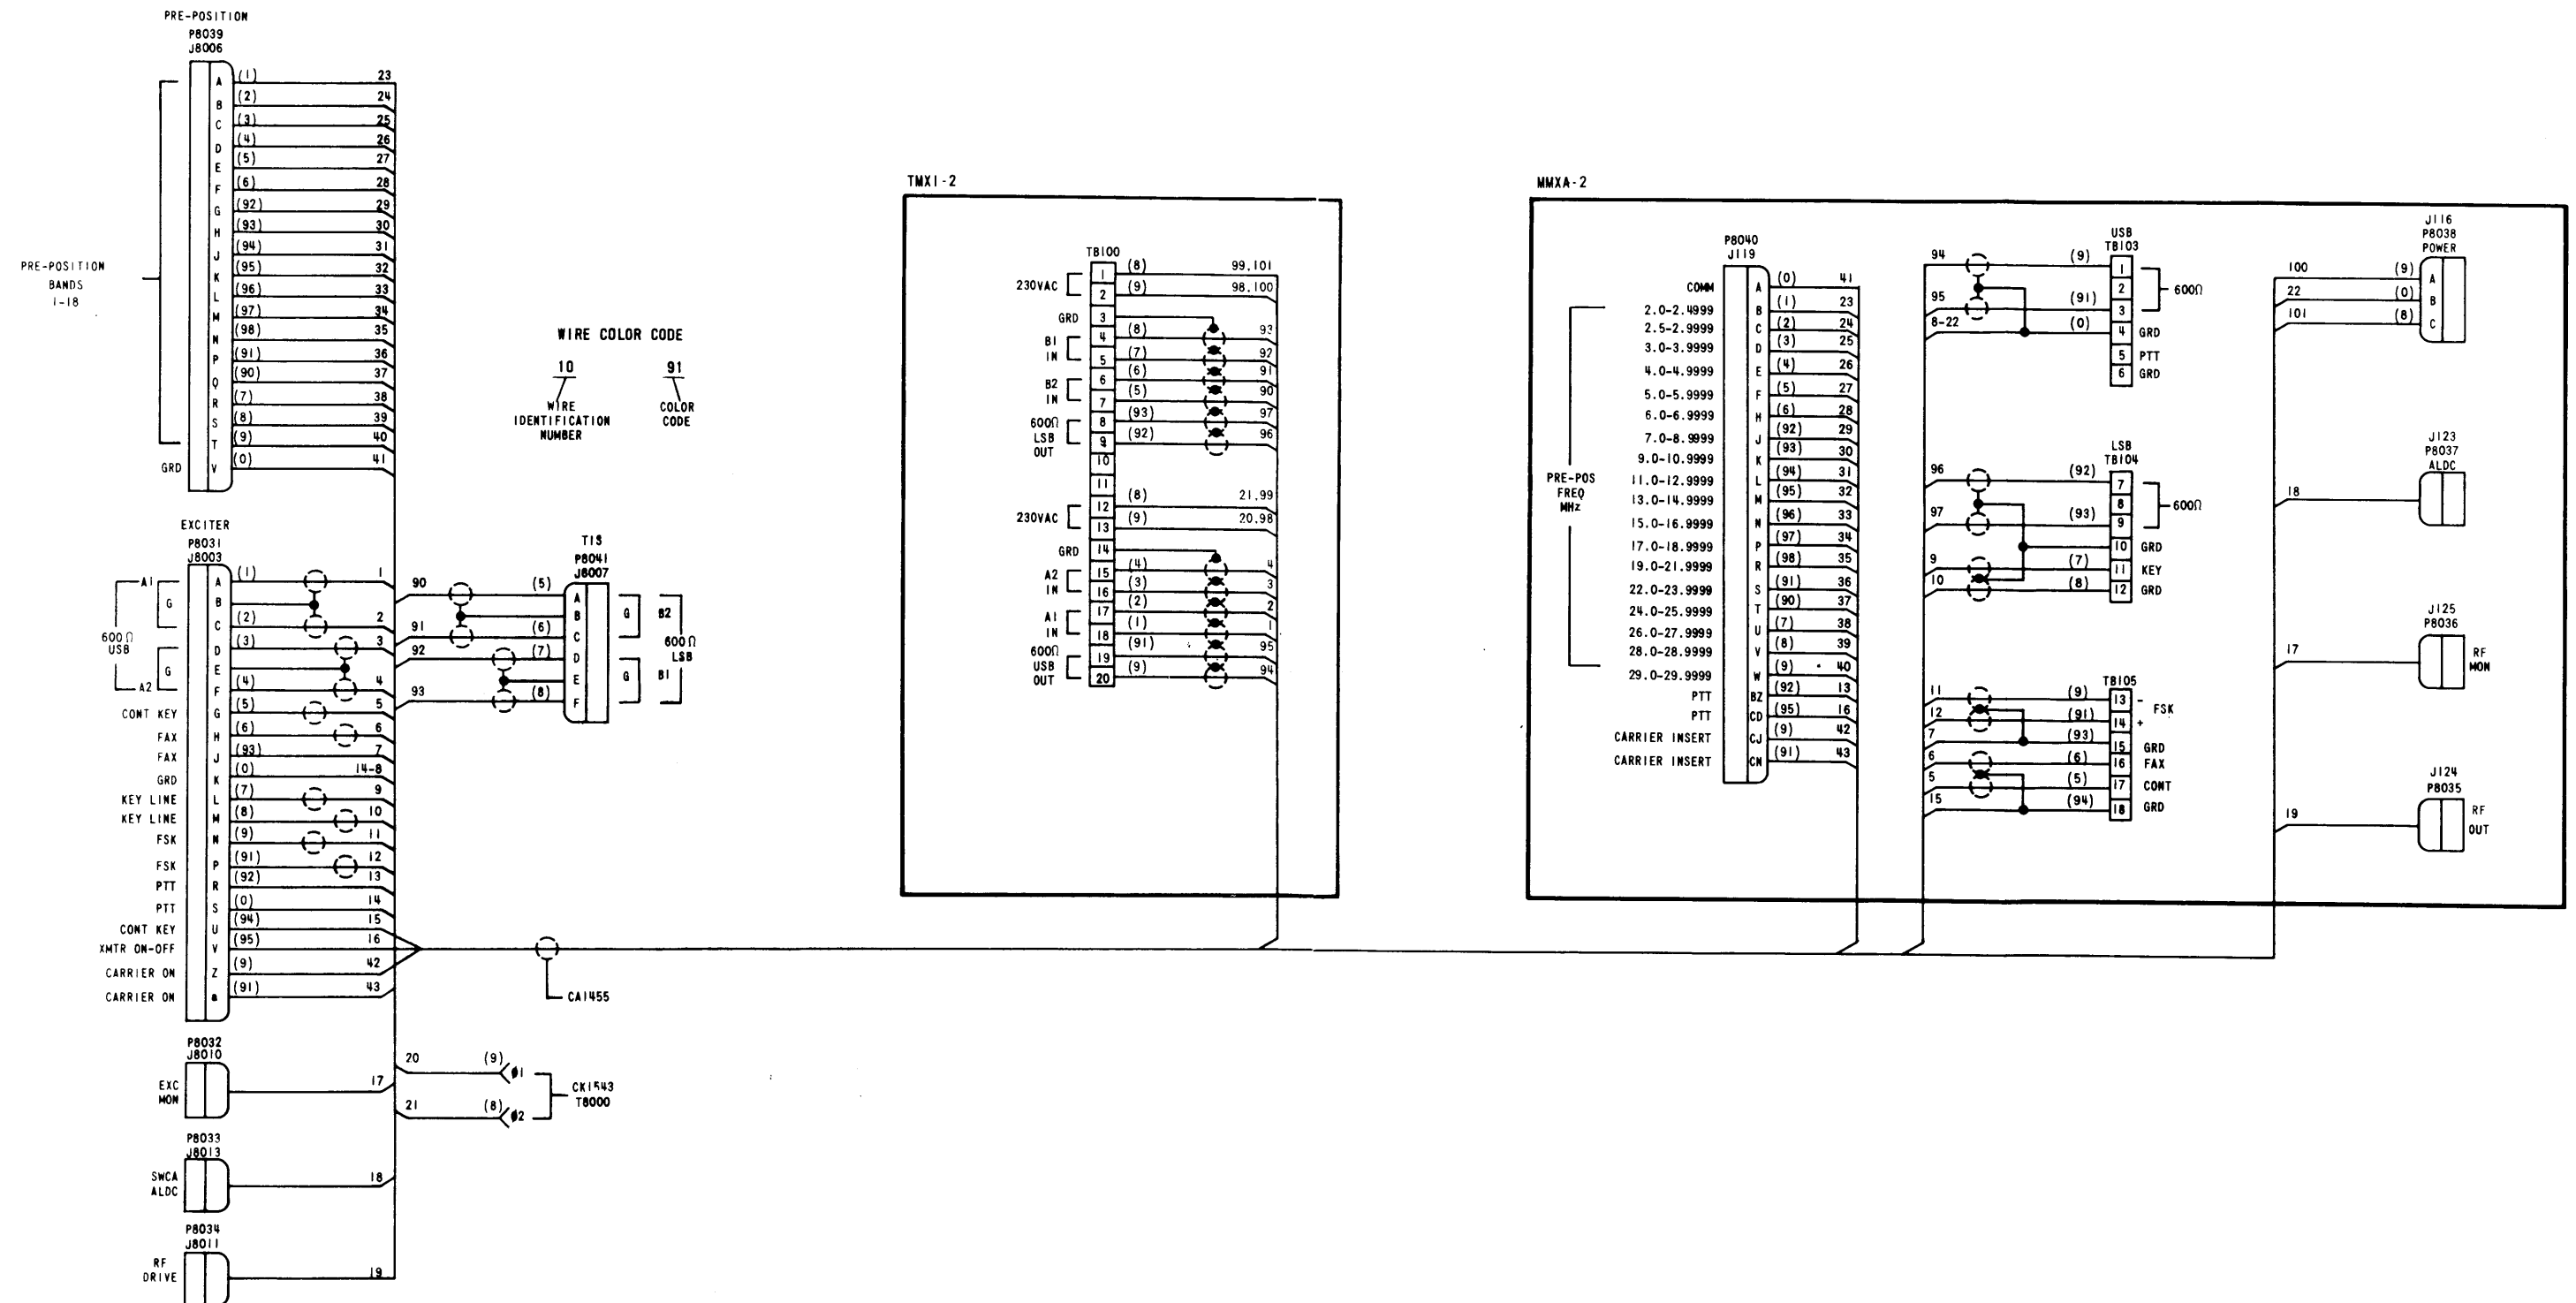

Figure 2-1. Exciter Interconnect Diagram
- a. Refer to figure 2-1, outlined dimensional drawing for transmitter location.